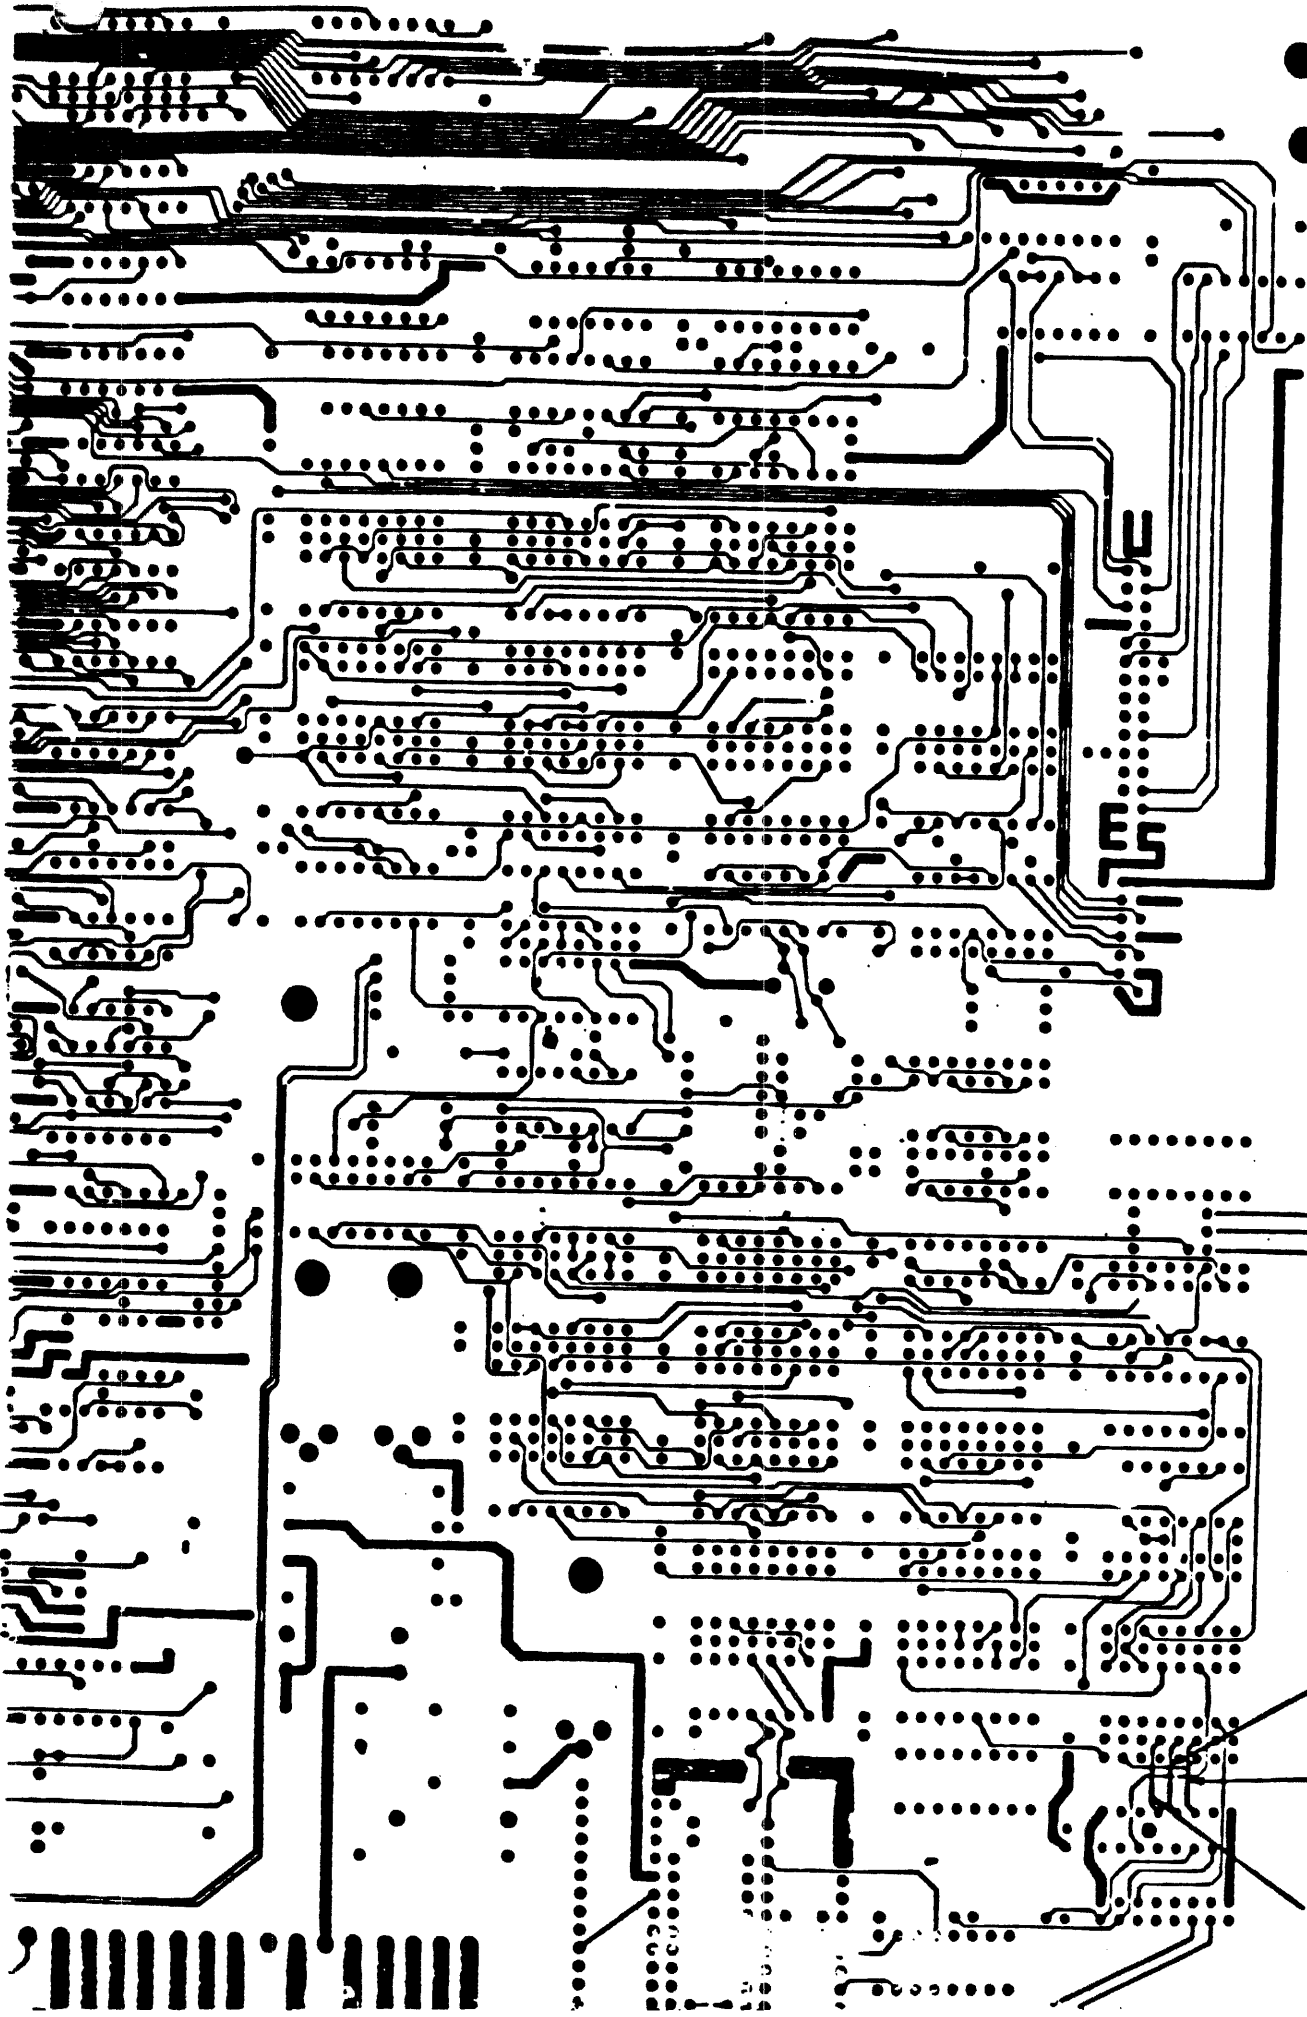

Figure 9
3. STRAIGHTEN THE JUMPER LEAD ON THE ETCH SIDE. (FIGURE 9)
23. Remove the Operator Control Panel from the Bezel (FIGURE 11) and change the switches to reflect a hexadecimal seven (7) (FIGURE 9).